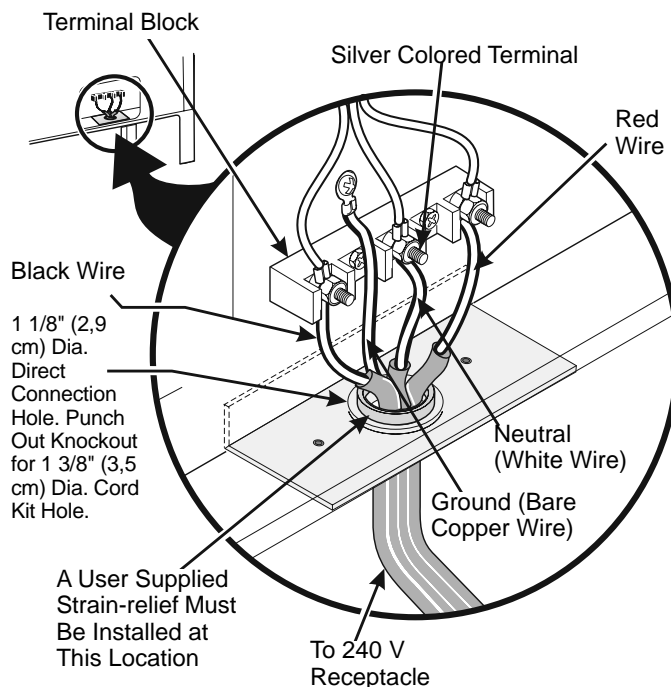

Figure 4
Where local codes DO NOT permit connection of the frame grounding conductor to the neutral wire of the copper power supply cord (see Figure 4):
3. Using the nuts supplied with the literature package, connect the ground wire (green) of the copper power supply cord to the frame of the appliance with the ground screw, using the hole in the frame where the ground strap was removed (see Figure 4).
If the appliance is connected directly to the circuit breaker, fuse box or junction box, use flexible, armored or nonmetallic sheathed copper cable (with grounding wire). Supply a U.L. listed strain-relief at each end of the cable. At the appliance end, the cable goes through the Direct Connection Hole (see Figure 4) on the Cord Mounting Plate. Wire sizes (**copper wire only**) and connections must conform to the rating of the appliance.